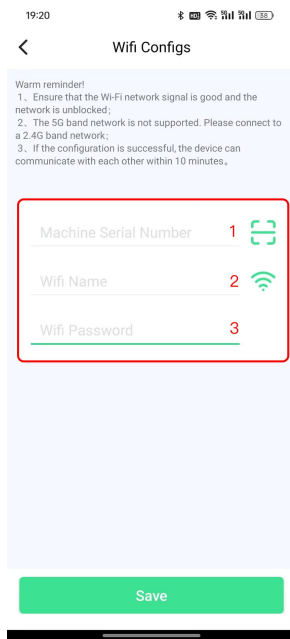
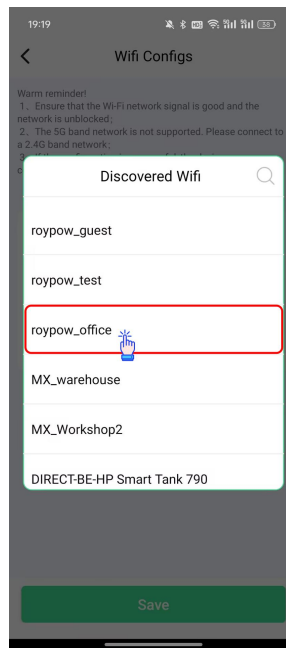

Fig. 2.5.1 WIFI Configuration
Fig. 2.5.2 Bluetooth Search and Connection
To set up the Collect sticks WIFI, first connect to the Collect sticks Bluetooth, then enter the WIFI network name and password for internet access. After completing the device addition for the first time in the previous Section 2.3, the WIFI configuration interface will automatically appear. (Users can also access this interface by navigating to "More" -> "Settings" -> "WIFI Configuration".) The interface is shown in Fig. 2.5.1.
1. Enter the serial number of the collector or click the scan icon in area 1 in Figure 2.5.1 to scan the serial number of the collector.
2. You can also click the icon in Area 2 as shown in Fig. 2.5.1, which will automatically scan for nearby WIFI networks (as shown in Fig. 2.5.2)
3. Enter the WIFI password (in Area 3 of Fig. 2.5.1)